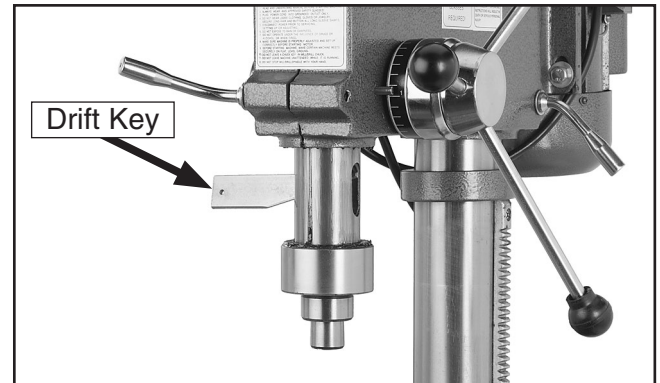

Figure 22. Drift key inserted in quill slot.
2. Insert the drift key into the quill slot as shown in **Figure 22**.